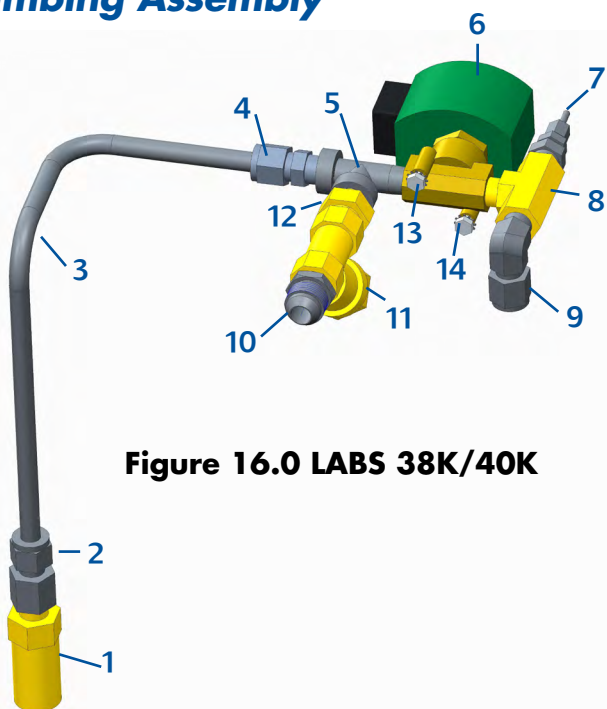

Figure 16.0 LABS 38K/40K
To install the controller, install the electrical supply connections panel to the back of the refrigerator. Feed the wiring harness from the electrical supply connections panel to the front of the refrigerator and through the opening to where the display will be mounted. Attach the electrical supply connections to the controller board. Be sure to follow all of the installation procedures for the thermocouple, sensor probes and solenoid valve before you reattach the cabinet top. Reattach the cabinet top with the (4) four screws that were removed (See Item 2 of Figure 16.0) out to remove the cabinet top. Carefully lower the display into the cabinet. Attach the display to the cabinet top with the (2) two supplied screws. Be sure that all of the necessary installation procedures have been completed before you start to fill the refrigerator. To start filling, refer to Filling the Refrigerator (Initial Fill) section of this manual.